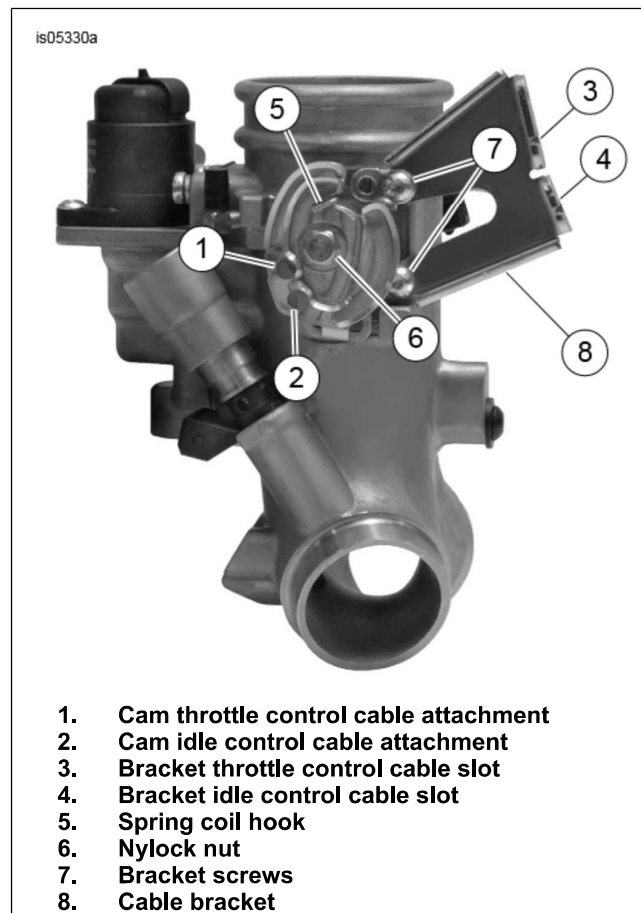

Figure 1. Throttle Body Assembly
5. See Figure 1. Label and disconnect the throttle cables (not shown) at the cam and bracket. See THROTTLE CONTROL in the Service Manual.